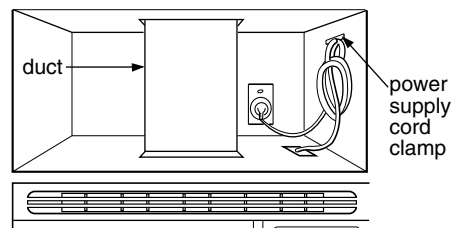

Figure 30
4. **ROOF VENTED INSTALLATION:** Install ductwork through the vent opening in the upper cabinet. Complete the venting system through the roof according to the method needed. See Figure 30. See **PREPARE THE VENTING SYSTEM, STEP 2** on the page 8. Use caulking to seal the exterior roof opening around the exhaust cap. See Figure 6 on page 8.
5. Use the power supply cord clamp to bundle the power supply cord. Install the power supply cord clamp, using a screw as shown in Figure 30, to inside of the cabinet.